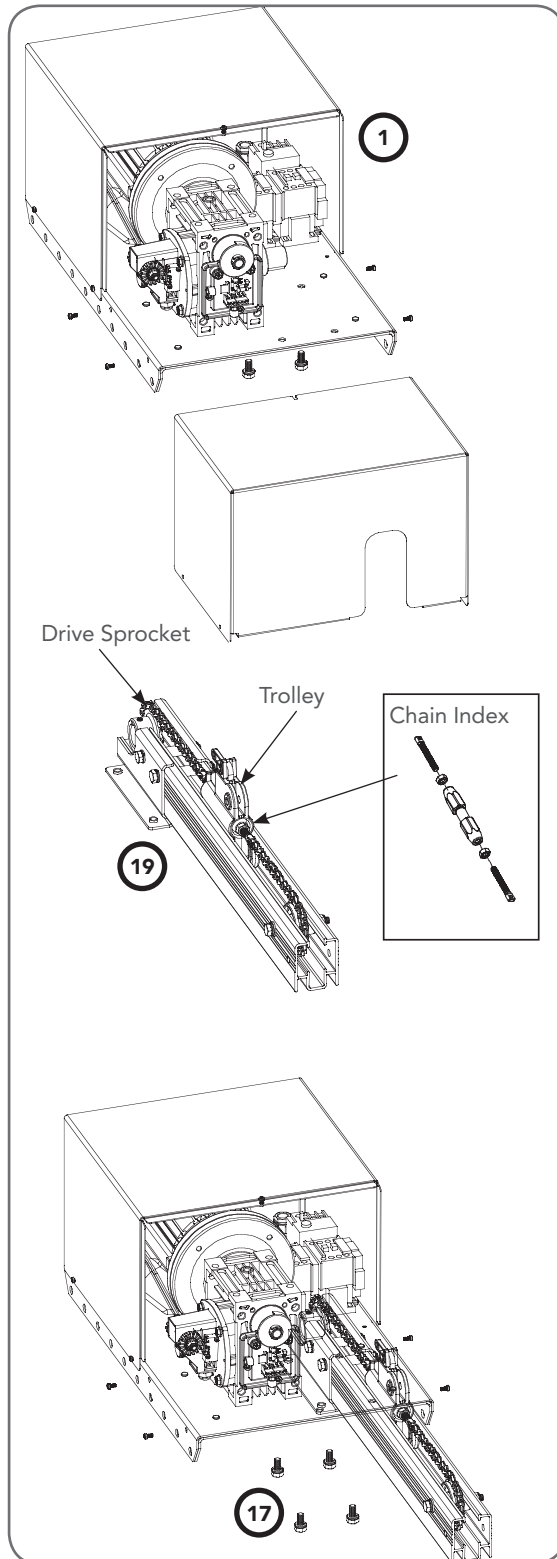

Fig 4.1
- Disconnect the trolley from the chain index (**Fig 4.1**).
- Secure the track to drive unit with the four (4) M8 x 16 Hex Head screws (17).